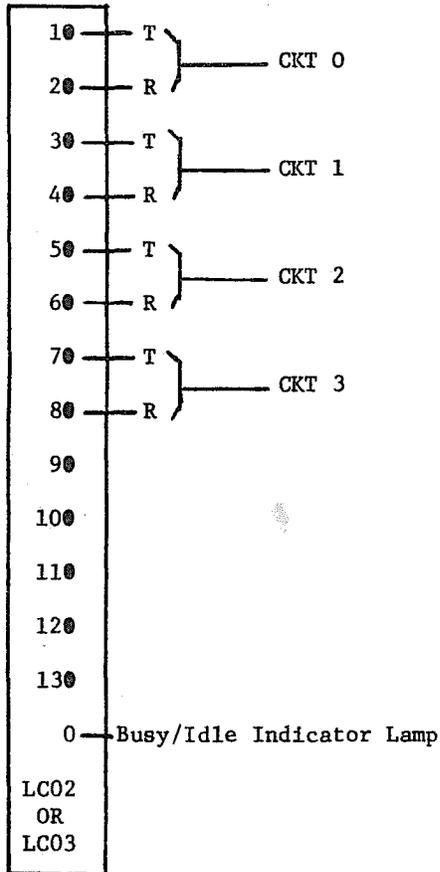

FIG. 1
5.03 Connect a 2500 Type TOUCH TONE Telephone Set to the test line using a 249A Adapter (see FIG. 1). Place the test line on-hook.
5.04 Connect a 2500 Type or ITE-4208A Telephone Set to Station B using a 249 Adapter (see FIG. 1). Place Station B on-hook.